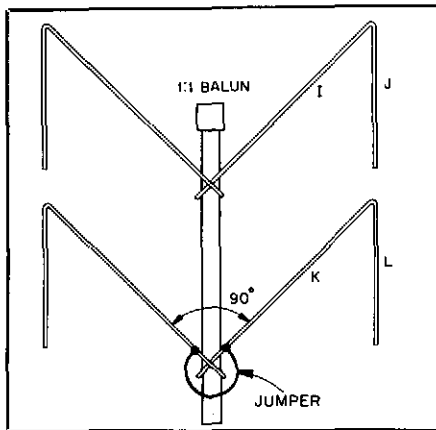

Fig 35—JG1UNE's Sigma beam. Tube sizes and lengths appear in Table 2.
□ A full-size beam antenna is great—if you have the space for one. Many of us, however, live in apartments and just don't have that space. Figs 35 through 38 describe the results of my experiments with a miniaturized beam antenna in a Σ (sigma) configuration. My antenna is mounted at the top of a tower, about 15 m above the building roof.
†Letters in parentheses are part identifiers as shown in Figs 35 and 38.